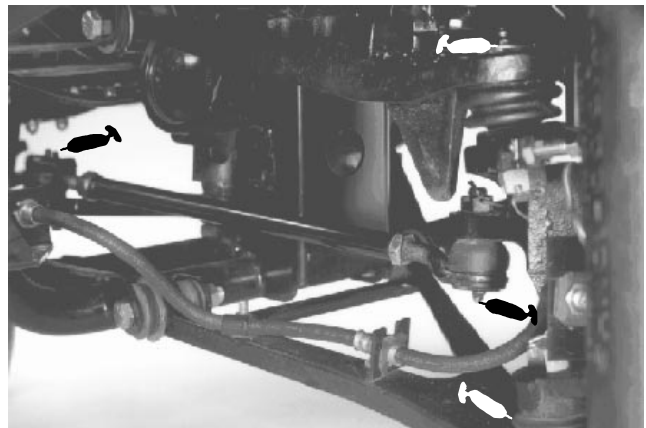
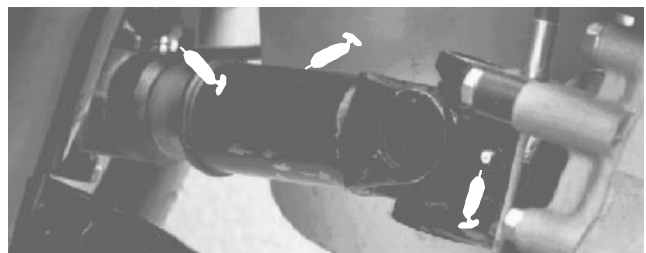

Figure 24
Figure 25
The grease fitting locations and quantities are: Tie rod ends (4) (Fig. 24), Front ball joints (4) (Fig. 24), Rear drive shafts (18) (Fig. 25) Front pivot bushings (2) (Fig. 26); Pedal Pivots (4) (Fig. 27); Steering shaft (1) (Fig. 28) and Accelerator Arm (1) (Fig. 29).